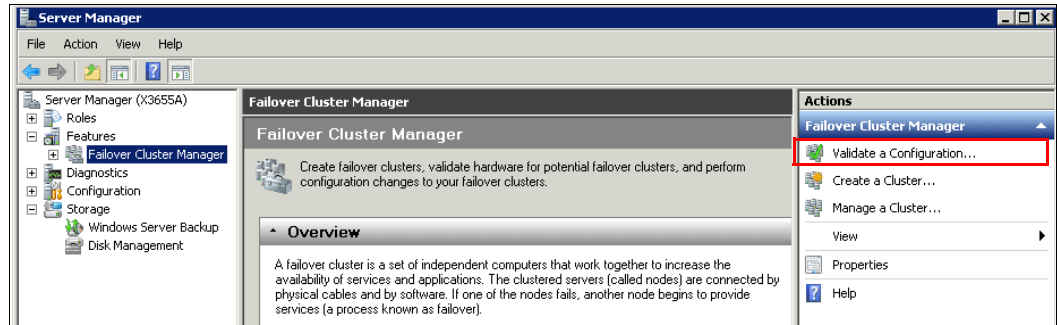

Figure 5-86 Windows Failover Cluster Manager
1. From the Windows Server Manager, select the **Failover Cluster Manager** (Figure 5-86). The Actions pane on the right will show available actions. The first action that is displayed is “Validate a Configuration”. Click that entry to start the wizard.